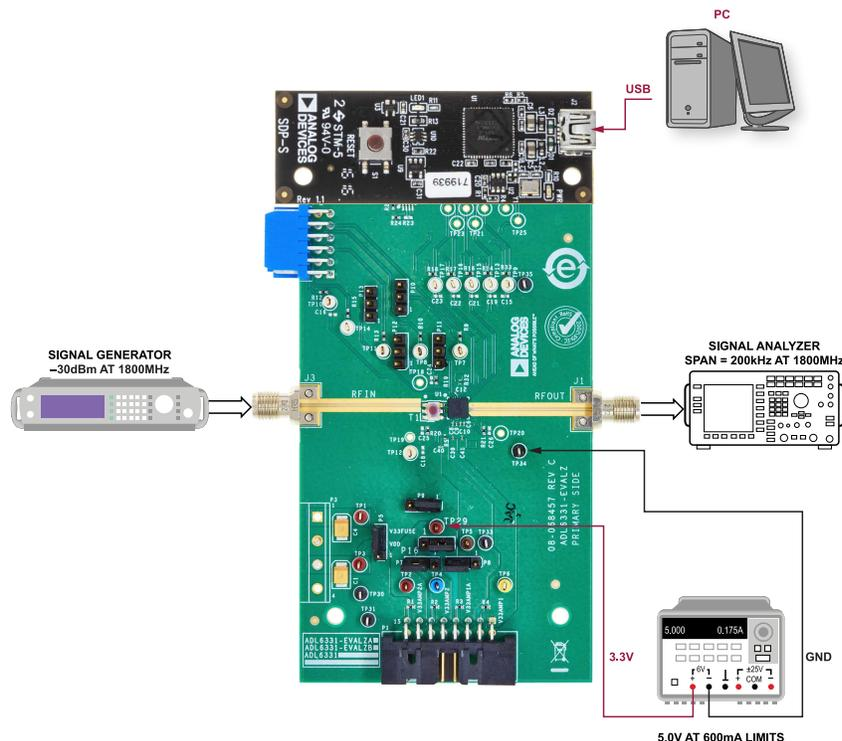
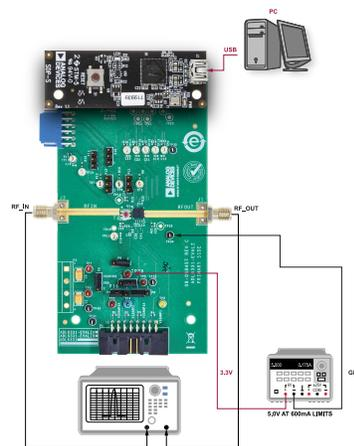

Figure 1. ADL6331-EVALZA Typical Measurement Setup (Option 1)
Figure 3. ADL6331-EVALZA Measurement Setup with Network Analyzer (Option 2)
Network Analyzer	Connect to one port on the network analyzer (see Figure 3)
Signal Generator	Set the source to -20 dBm output signal level (see Figure 1)
Spectrum Analyzer	Connect to port (see Figure 1)
1. Configure the hardware according to the Hardware Setup section and shown in Figure 1 or Figure 3.